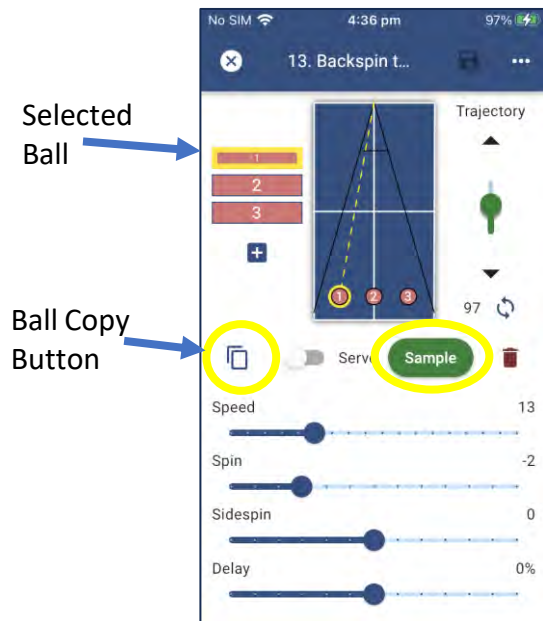

Figure 3-67
3.5.8 Sample Button (Figure 3-67)
3. Press the Ball Copy button. (Figure 3-67) A new ball will be added to your Drill with the same parameters as the previously selected Ball.